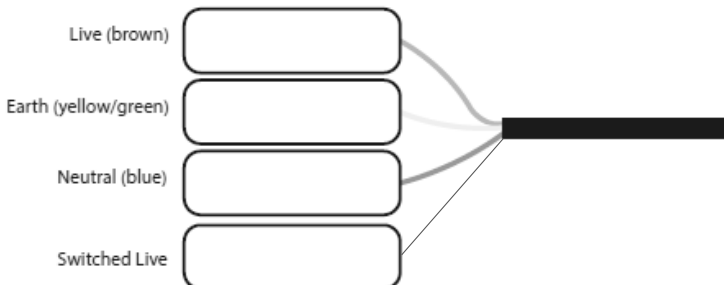

Fig 2
- For switched maintained operation connect the Permanent Live (brown), Neutral (blue), Earth (yellow and green) and Switched Live via the terminal connector (see Fig 2)
- Wire the mains cable as shown in Fig 2